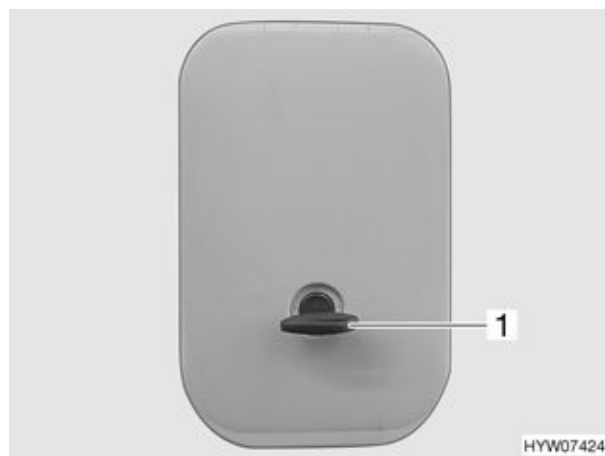

Fig. 33 Flap lock (variant 5)
- Insert key into locking cylinder (Fig. 33,1).